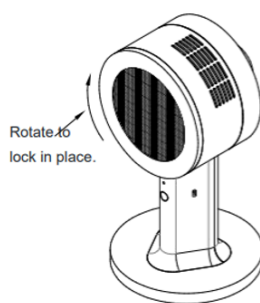

Fig. 13
13. Rotate the panel component to the right to lock it in place [Fig. 13].